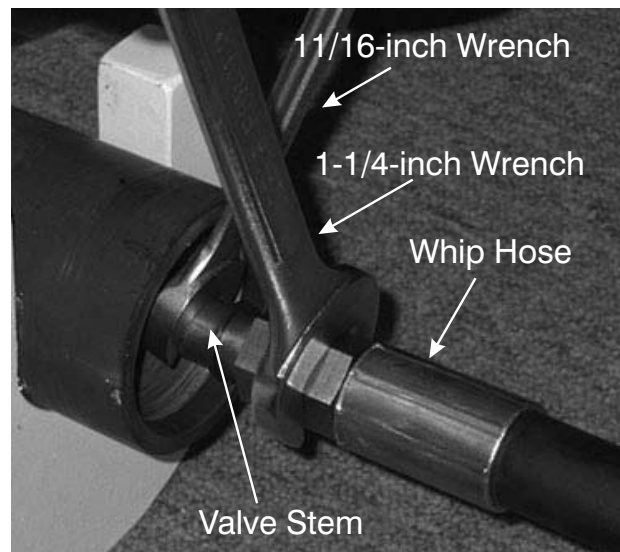

Figure 11-17. Loosen Hex Fitting and Remove Whip Hose
5. While holding the Valve Stem in position with the 11/16-inch open-end wrench, fit a 1-1/4-inch open-end wrench across the flats of the Whip Hose hex fitting as shown in Figure 11-17.
8. Continue holding the Valve Stem in position with the 11/16-inch open-end wrench, and fit a 1-1/4-inch open-end wrench across the flats of the Whip Hose hex fitting as shown in Figure 11-17.
9. Tighten the Whip Hose hex fitting securely onto the Valve Stem as shown in Figure 11-17.